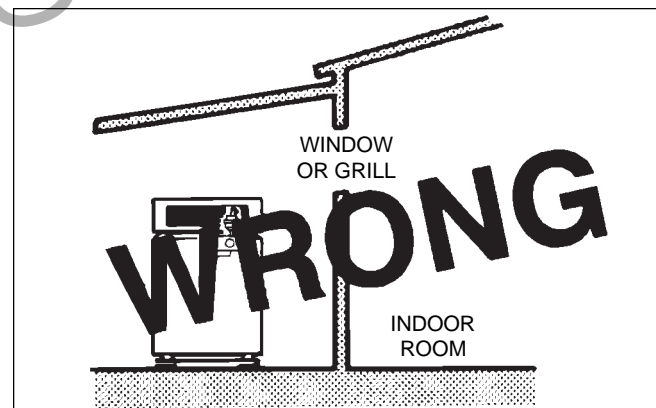

Figure 18. Incorrect Outdoor Installation.
1. Locate the boiler in an open, unroofed area. Do not locate the boiler below or adjacent to any doors, windows, louvers, grills, etc., which connect in any way with an inhabited area of a building, even though the access might be through another structure such as a garage or utility room (see Figure 18 and Table 1).